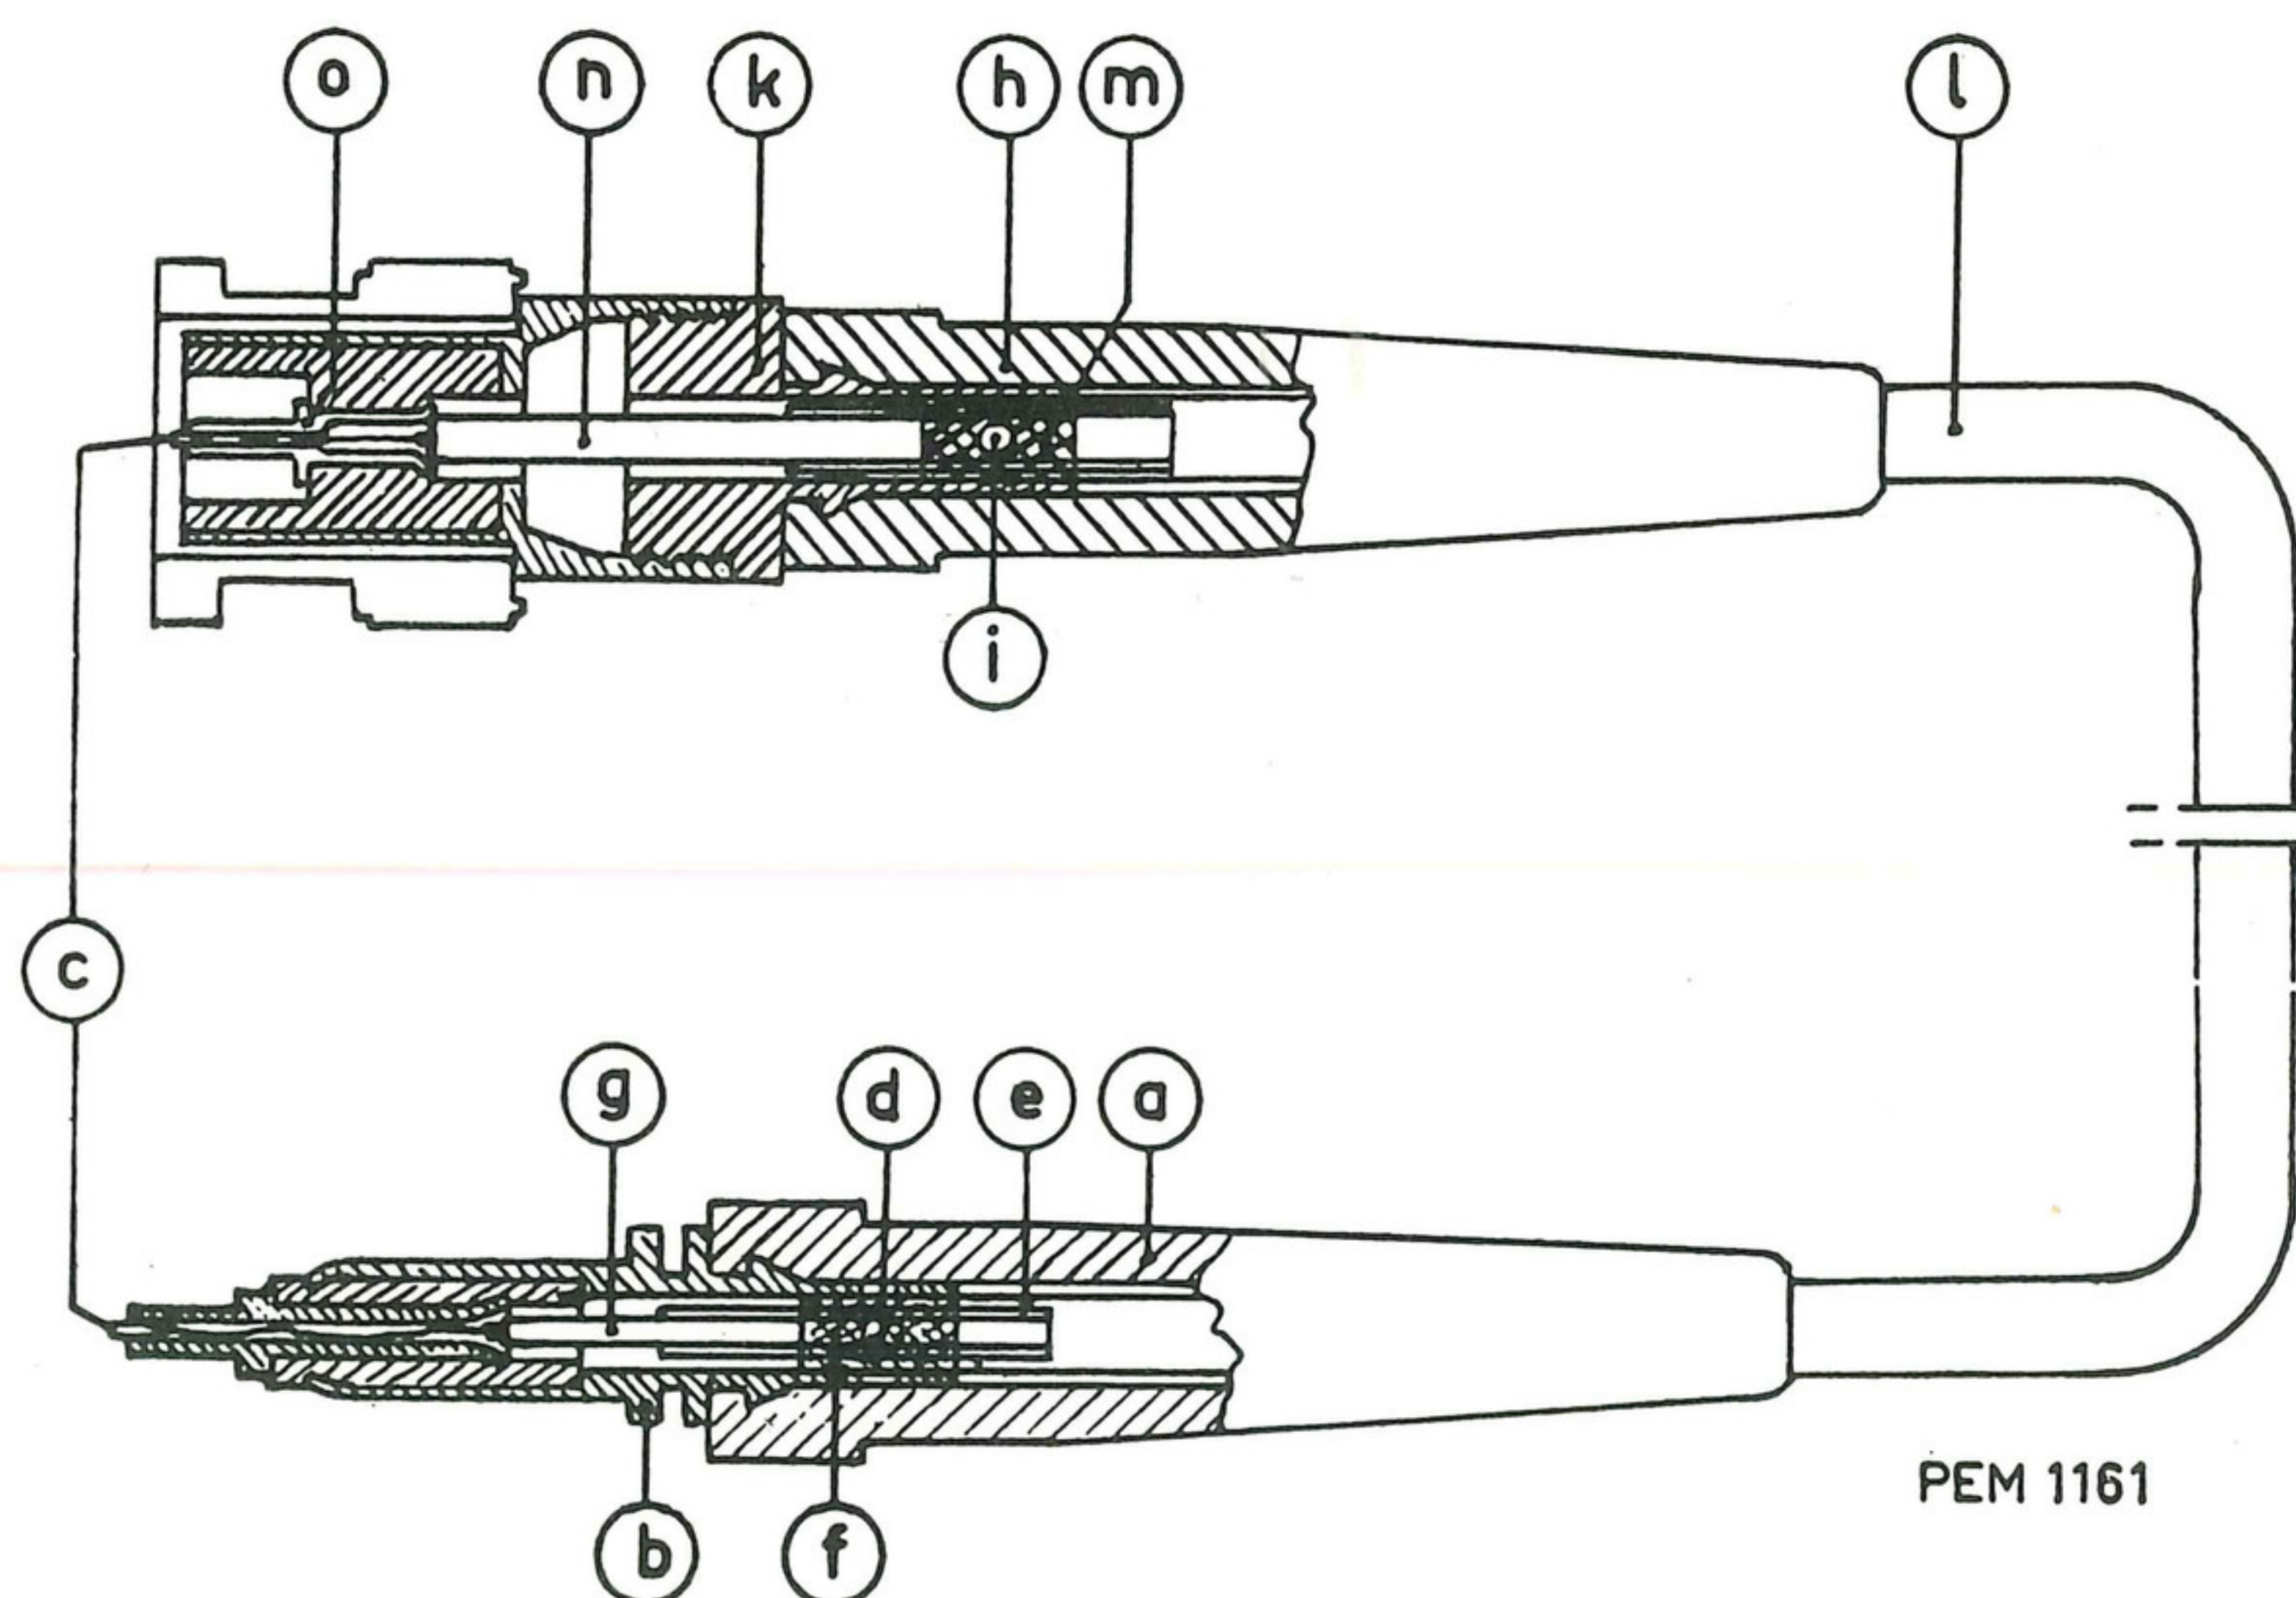

Fig. 21. Cross-section of probe
a. probe end (see Fig. 21)
b. BNC connector end (see Fig. 21)